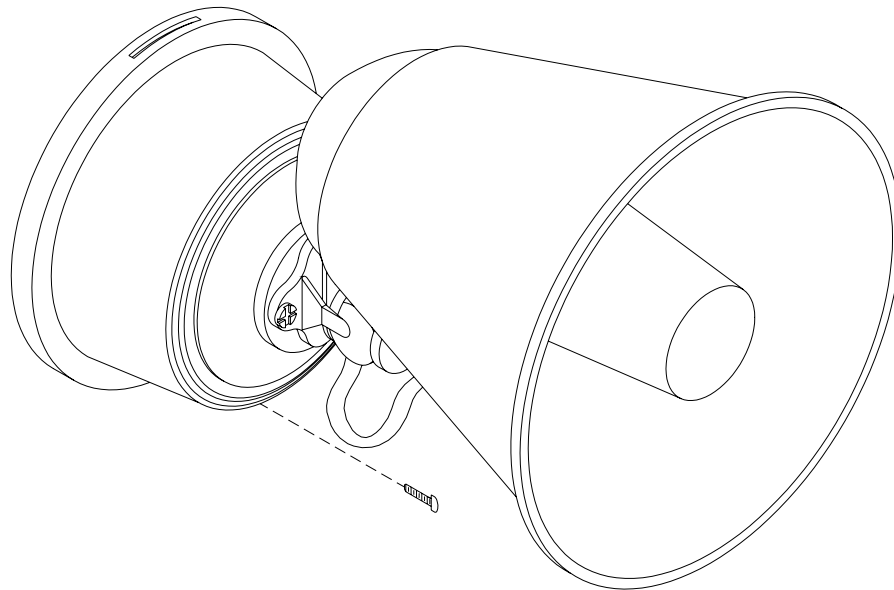

Figure 12 Horn Signal Mounting Plate Screw
11. Remove the horn signal mounting plate from the horn base by loosening the Phillips head screw on the base as seen in figure 12.